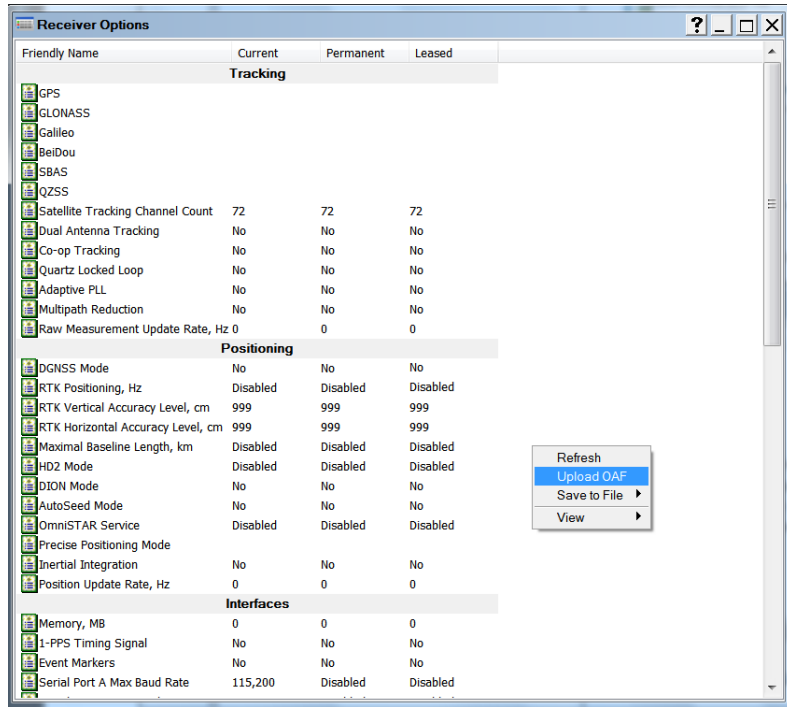

Figure 21: Right-click and Select Upload OAF
2. Right-click on the **Receiver Options** window, and select **Upload OAF**.(see Figure 21).